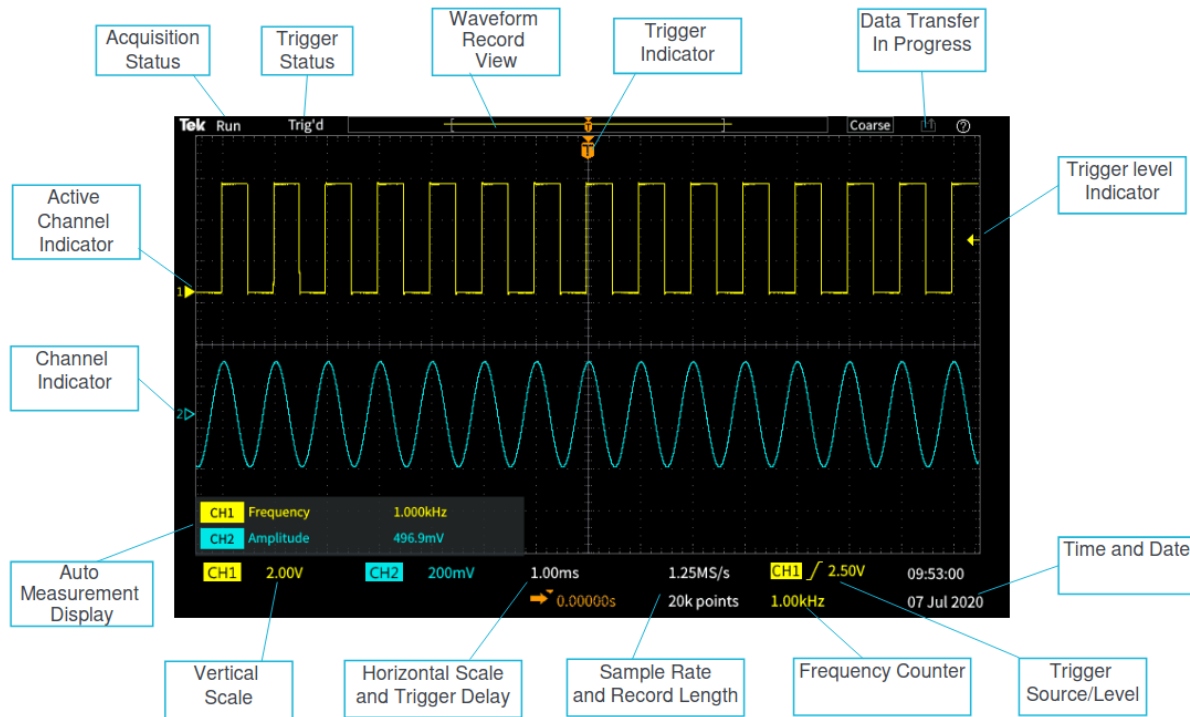

Figure 3: Information on oscilloscope display. (Figure Reference: TBS1000C Demonstration Guide, 26 JUNE 2020 - VERSION 1.0.)
1. What is the location of the ground level and the level of the signal? (You may use Figure 1a and Figure 3 for reference.)
2. Turn the volts/div (**Scale**) knob clock wise and anti-clockwise in steps. You should notice the volts/div changing at the bottom left hand corner of the screen, indicated by *Vertical Scale* in Figure 3, and numbers will change in a 1:2:5 sequence (e.g. 0.1, 0.2, 0.5, 1, 2 5 etc.). What happens when the volts/div **Scale** knob is turned? Was there a shift in the position of the ground level?
Quick Measurements (QM): This oscilloscope has built in capabilities that allow the user to take simple measurements quickly. This is introduced in this section so you can perform some more experiments with the vertical section. To use this feature, press the **Measure** key located on the front panel. This brings up a soft key menu on the right side of the screen. There, the source can be selected by pressing the soft key adjacent. The measurement type can be selected by rotating the **Multipurpose** knob and pressing on the desired measurement. The measurement choices can be removed by pressing the **Remove All Measurements** soft key. The selected measurements are displayed in *Auto Measurement Display* region as shown in Figure 3.
- A secs/div knob marked **Scale**, in the Horizontal control menu, that helps in modifying the horizontal scale, which is displayed at *Horizontal Scale and Trigger Delay* as shown in Figure.3.